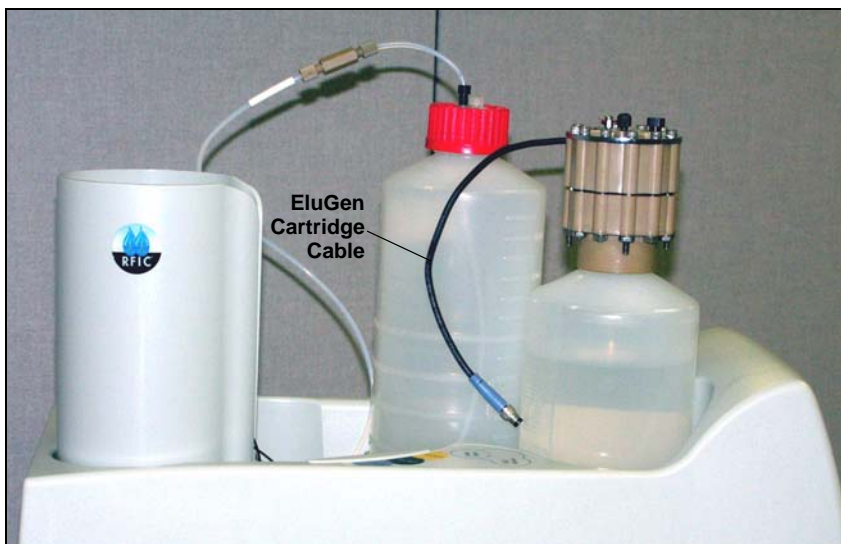

Figure 5-36. EluGen Cartridge in Service Area
- Set the EluGen cartridge in the service area on top of the ICS-2000 and orient it with the cable toward the EGC holder (see Figure 5-36).
12. Set the EluGen cartridge in the service area on top of the ICS-2000 and orient it with the cable toward the EGC holder (see Figure 5-36).